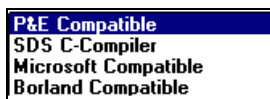

Figure 4-16. Error Format List
- **Error Format:** Click the down arrow to the right of the *Error Format* list box to display the list of error formats (Figure 4-16). If the WinIDE editor is to attempt to read back an error from a compiler, it must understand the error syntax. This option lets you select an error format from a list of supported formats. If the *Recover Error from compiler* option is checked, and the filename specified in the *Error Filename* text box is found, the editor parses that file from end to beginning looking for the error. If the editor finds an error, it opens the file, highlights the error line, and displays the error in the status bar.